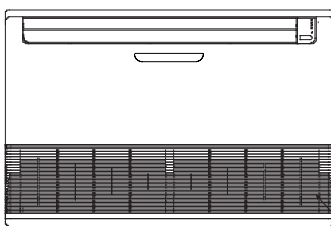

Figure 12.1
- ♦ C is housed in the lower part of the unit in Figure 12.1.